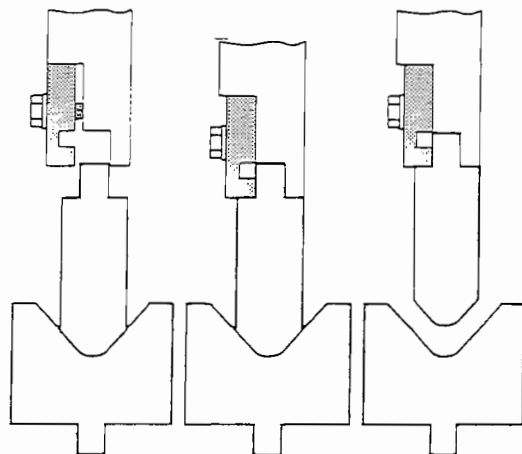

FIGURE 13
1. When installing upper tools with a tongue (Figure 13), slide the tool into the vee of the lower die and slide the tool to the desired position.